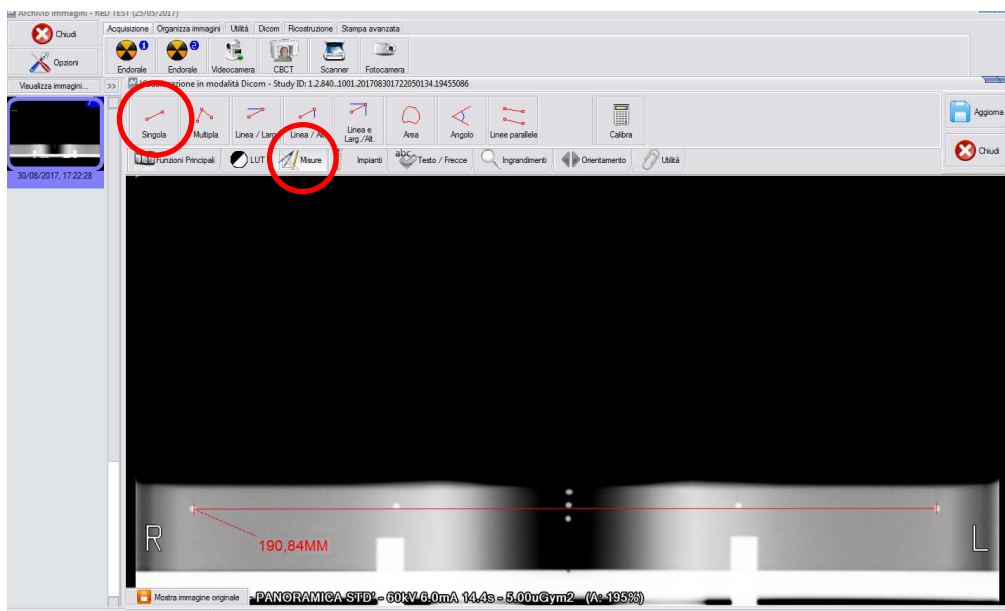

Figure 6-16
6. Set contrast and brightness level to have good visibility of all centering balls. Select from the menu "Measure" (Figure 6-16) the icon "Single" and measure the dimension of the image using as reference the two external balls. The image has to be 191mm \pm 2mm with Panoramic STD trajectory selected.